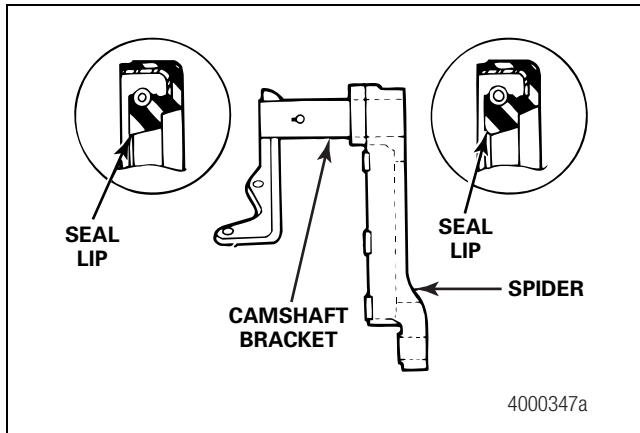

Figure 4.15
- Install the seals with their lips toward the slack adjuster. Figure 4.15.